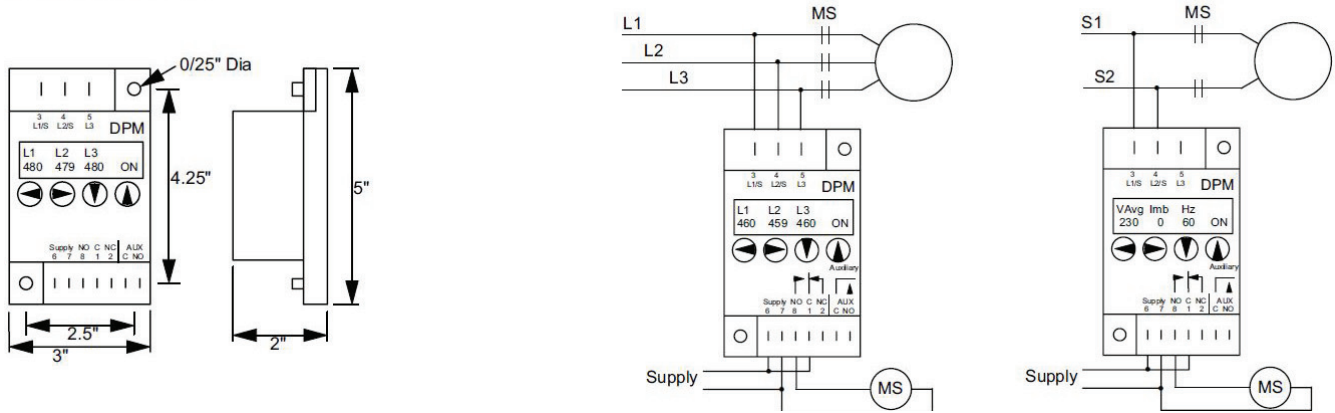

Fig. 75 — Phase Monitor Details
A phase monitor is included on all 62X units with Revision J controls. The phase monitor is used to monitor the input power for phasing, balance, over/under voltage, and power loss to protect the unit components from damage. If any of the above conditions are detected by the phase monitor, unit control power will be interrupted and the unit will be unable to operate. When the power state returns to normal, the power monitor will allow control operation. The power monitor features adjustable delay on make, delay on break, and voltage unbalance dials on the top of the monitor. See Table 18 and Fig. 75 for power monitor specifications.
- **DPT option** — The ECM or the VFD will be controlled by a duct pressure sensor (see Fig. 75) to maintain a specific set duct pressure. The supply fan is controlled to the duct pressure and the exhaust fan (if the unit has exhaust) is controlled to the space pressure.